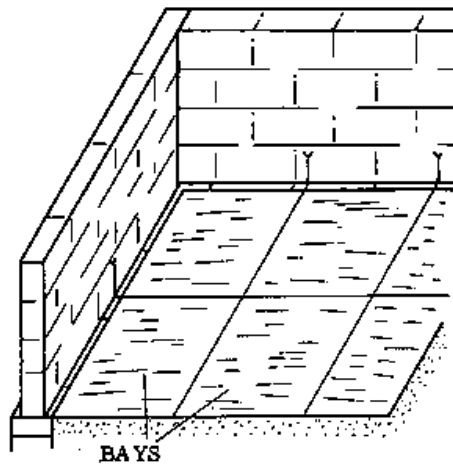
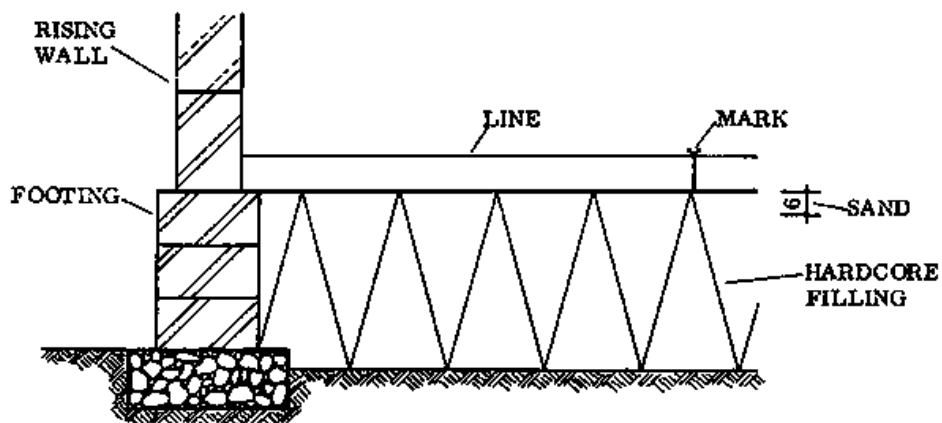

Fig. 2
Fig. 3
b. Divide the area of the room into bays and mark the bays on the walls (Fig. 2).
c. Mark the positions of the edge boards on the sand between the marks on the walls (Fig. 2). Lines may also be fixed between the wall marks at the height of the finished floor level (Fig. 3).